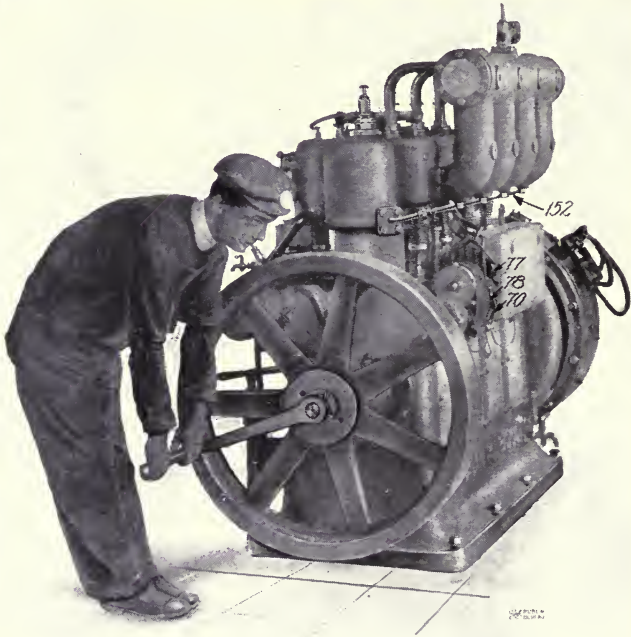

Fig. 7.—Correct method of cranking.
1. Place ignition switch (part 77 Eisemann and G. F. magnetos, part 1038 Splitdorf magneto) in "off" position (see fig. 7; also par. 17).
15. Engage crank as in fig. 7 and **pull up, never push down**. Repeat until engine starts (*see pars. 25c, 28e, 28f, and 29d*).